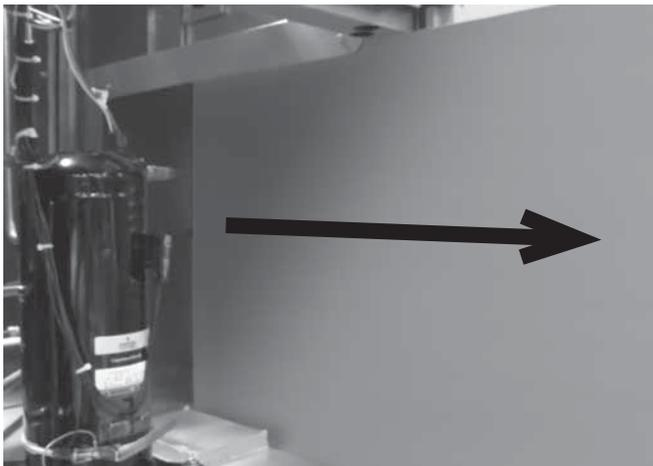

Figure 3. Electric Heat Kit Access Panel
2. Remove electric heat vestibule cover by pulling straight out, perpendicular to the unit. See Figure 3.